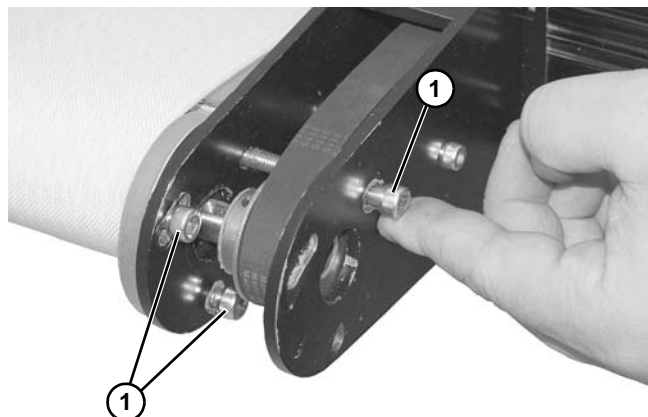

Figure 22
5. Remove three screws (Figure 22, item 1).